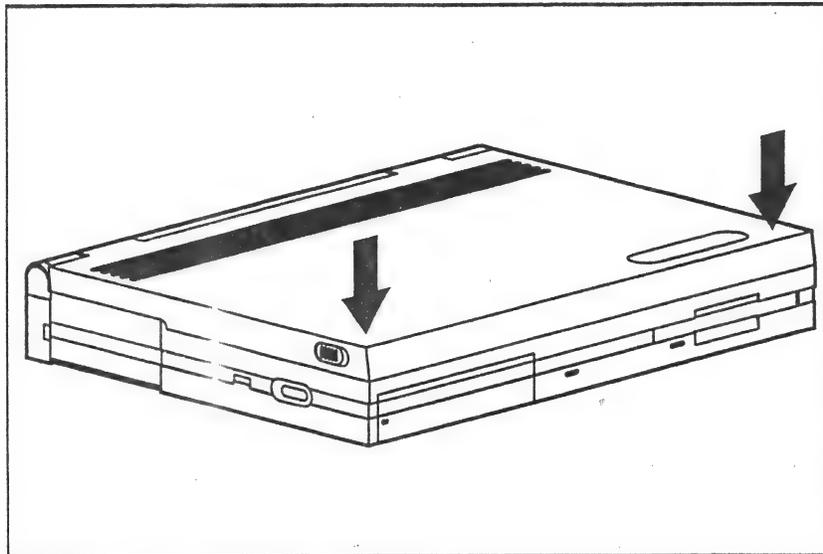

Figure 2-3. Closing the Computer
4. Lower the display to the latched position (Figure 2-3).